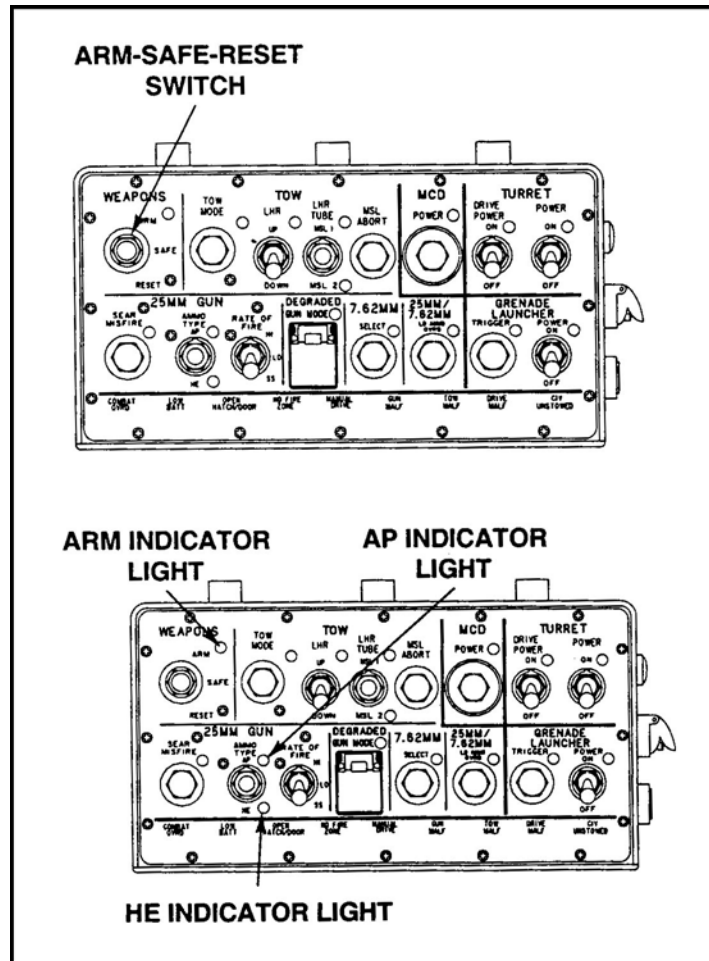

Figure 12. System control box-ammo type.
3. Operate the system control box (SCB) (Figure 12).